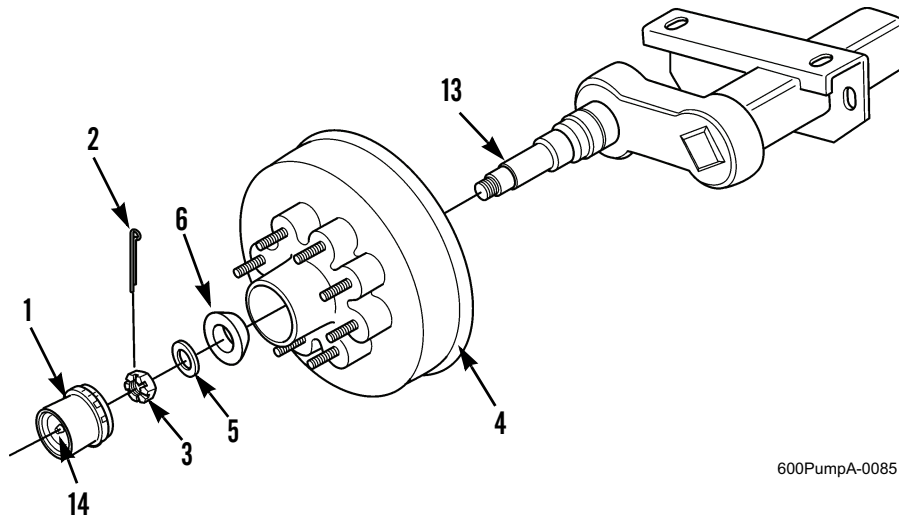

Figure 5. Installing Hub/Drum On Axle Spindle.
1. Position assembled hub/drum (Figure 5, Item 4) on axle spindle (Figure 5, Item 13) until fully seated.
2. Install outer bearing (Figure 5, Item 6) in hub/drum (Figure 5, Item 4).
3. Install washer (Figure 5, Item 5) and spindle nut (Figure 5, Item 3) on axle spindle (Figure 5, Item 13).
5. Ensure spindle nut (Figure 5, Item 3) turns freely on axle spindle (Figure 5, Item 13) and brakes are not dragging.
6. While turning hub/drum (Figure 5, Item 4) slowly, tighten spindle nut (Figure 5, Item 3) to seat bearings.
7. Back off spindle nut (Figure 5, Item 3) as required to align cotter pin hole.
8. Install new cotter pin (Figure 5, Item 2) on spindle nut (Figure 5, Item 3) and axle spindle (Figure 5, Item 13). Bend back ends of cotter pin to secure spindle nut.
9. Drive Bearing Buddy® cap (Figure 5, Item 1) squarely into hub/drum (Figure 5, Item 4).
10. Check position of piston in Bearing Buddy® cap (Figure 5, Item 1). When hub is correctly filled with grease, piston is extended approximately 1/8 in. (3.2 mm) and can be rocked or moved.
11. As required, add GAA grease to grease fitting (Figure 5, Item 14) on Bearing Buddy® cap (Figure 5, Item 1).